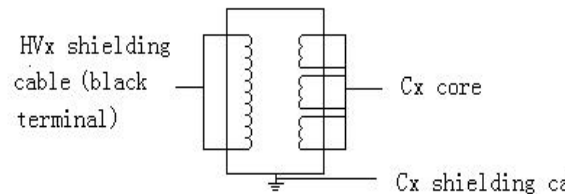
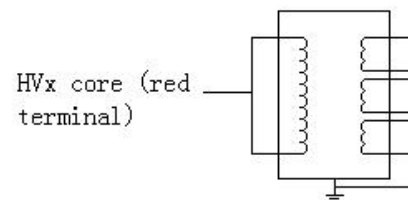

Figure 9 CT connection
Figure 10 CT connection
A. See Figure 9
A. See Figure 9(core connect to end shield)
(3) Primary side to secondary side and ground
A. See Figure 10